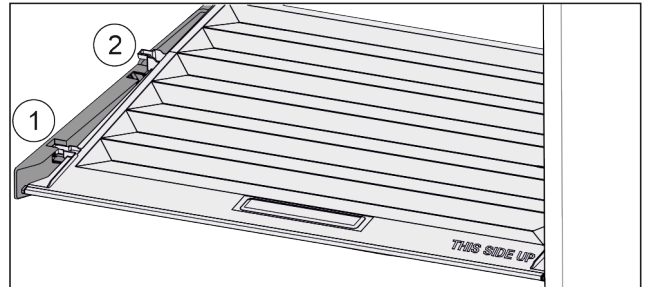

Fig. 152
- Pull the lid up at the front to the opening in the retaining parts Fig. 152 (1).
- Lift from the back and pull it up and out Fig. 152 (2).